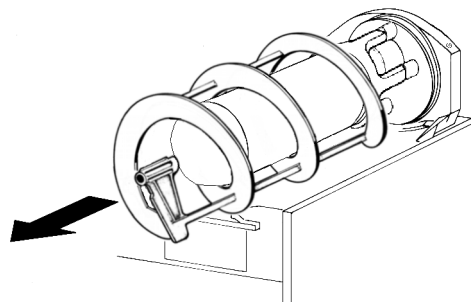
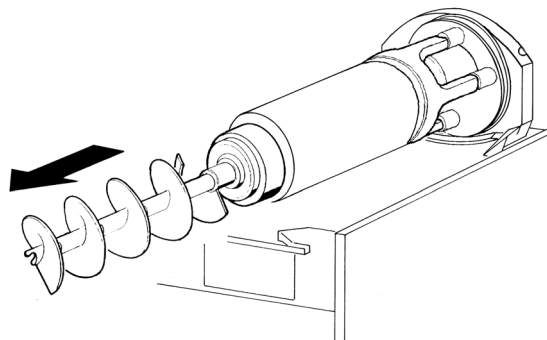

figure 7
figure 8
- 3 Slide the outer spiral out (see figure 7) and then the inside auger (see figure 8).